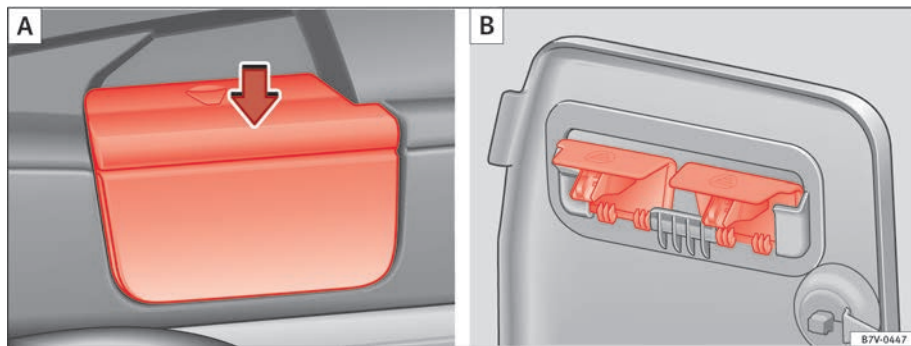

Fig. 92 Remove the shelf supports (A) then put them away safely (B).
- Remove the shelf from the support in the side lining ⇒ fig. 92 **(A)**. To do this, press the shelf upwards (arrow) and remove it.